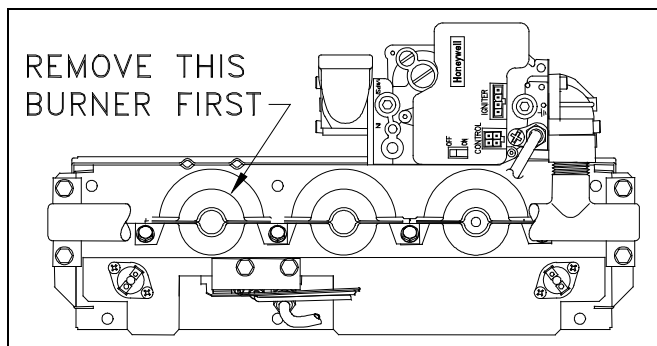

Figure 31. Main Burner Removal.
4. Starting with burner farthest from gas control, remove main burner screws and main burners. Note how burners overlap. Burner farthest from gas control is on top. See Figure 31.